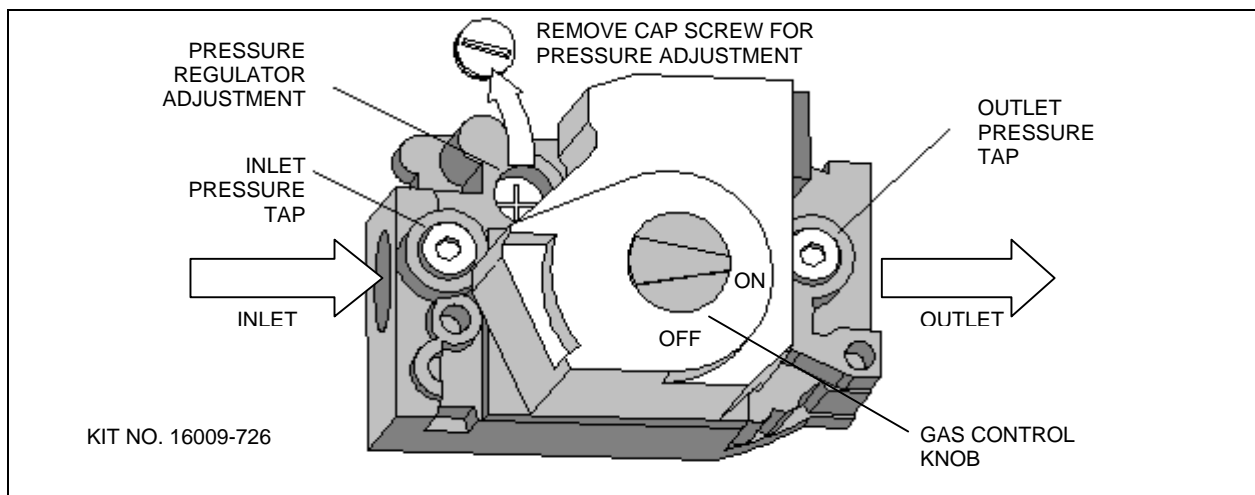

Figure 25 – GAS VALVE
2. Remove the plug on outlet end of gas valve (see Figure 25) and attach pressure tap and manometer.